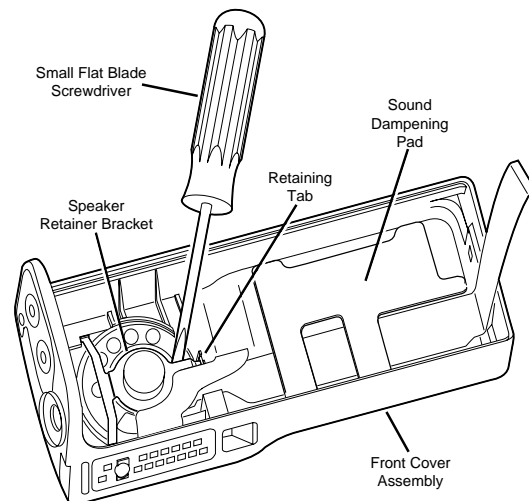

Figure 11 Removing the Speaker and Flex From the Front Cover
3. Remove the speaker retainer bracket, speaker, microphone, and front cover flex from the front cover housing (see Figure 11).